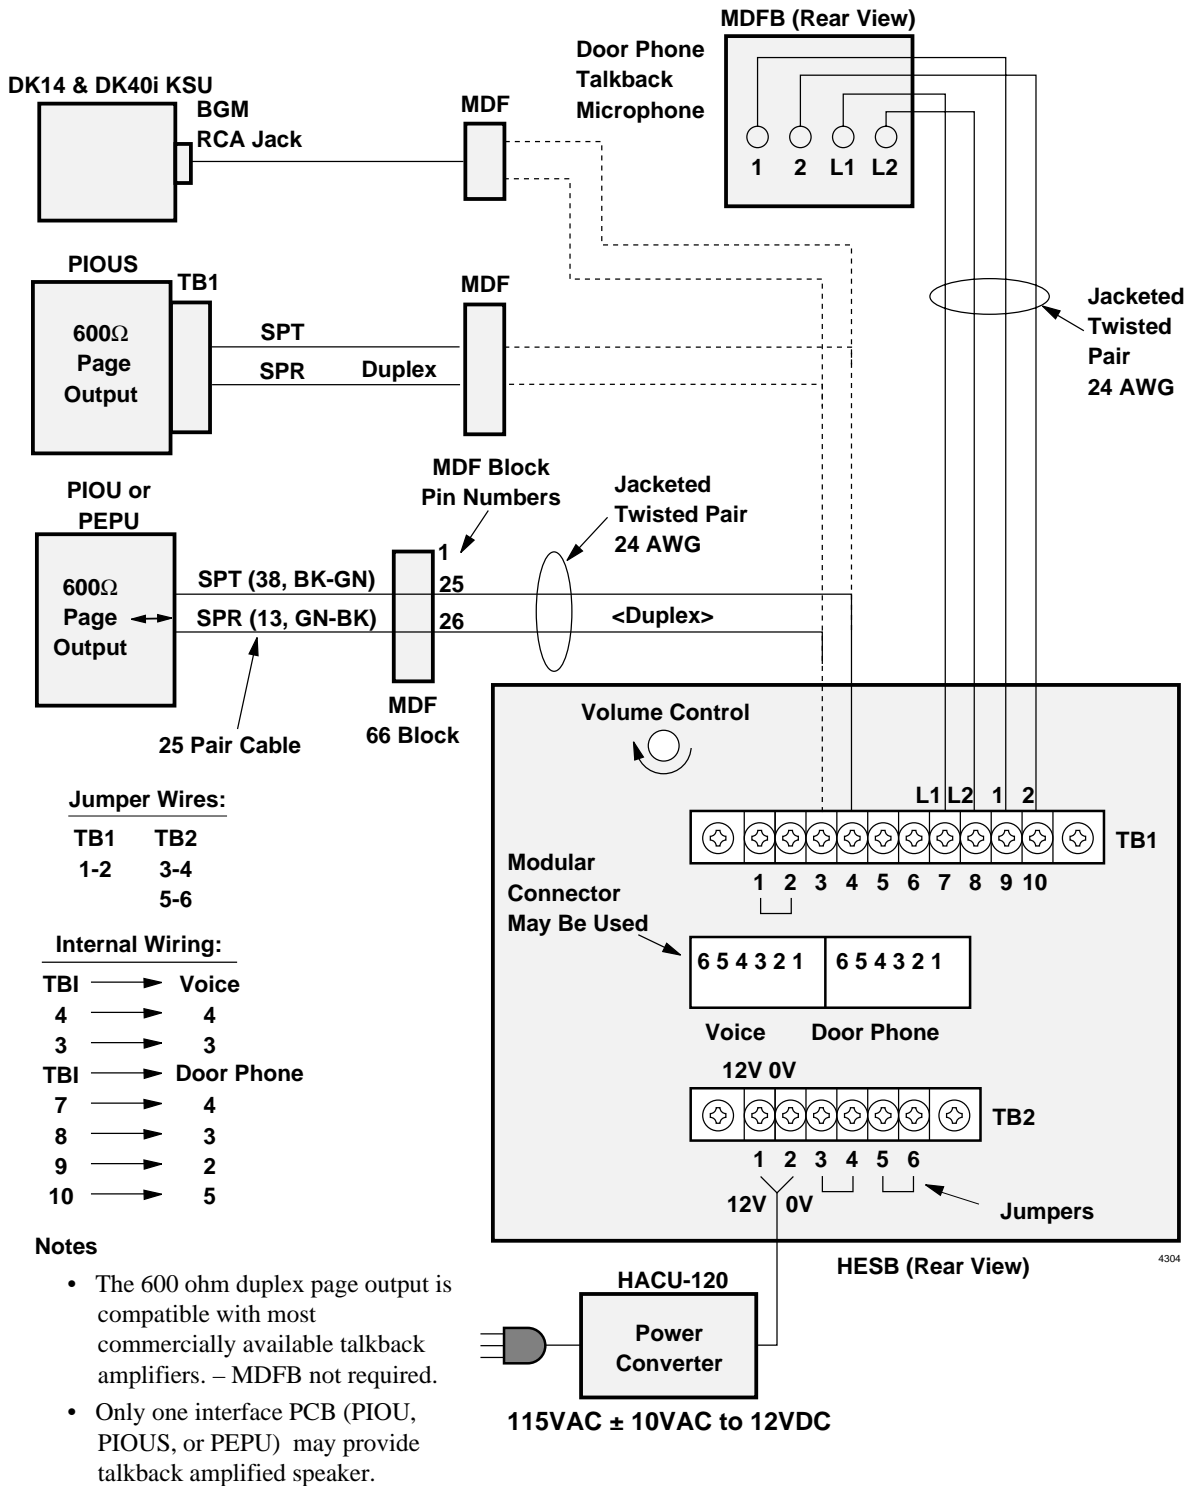

Figure 10-14 HESB/Talkback Amplified Speaker Wiring
1. Connect a jumper between terminals 1 and 2 of the HESB TB1 terminal block (see Figure 10-14).